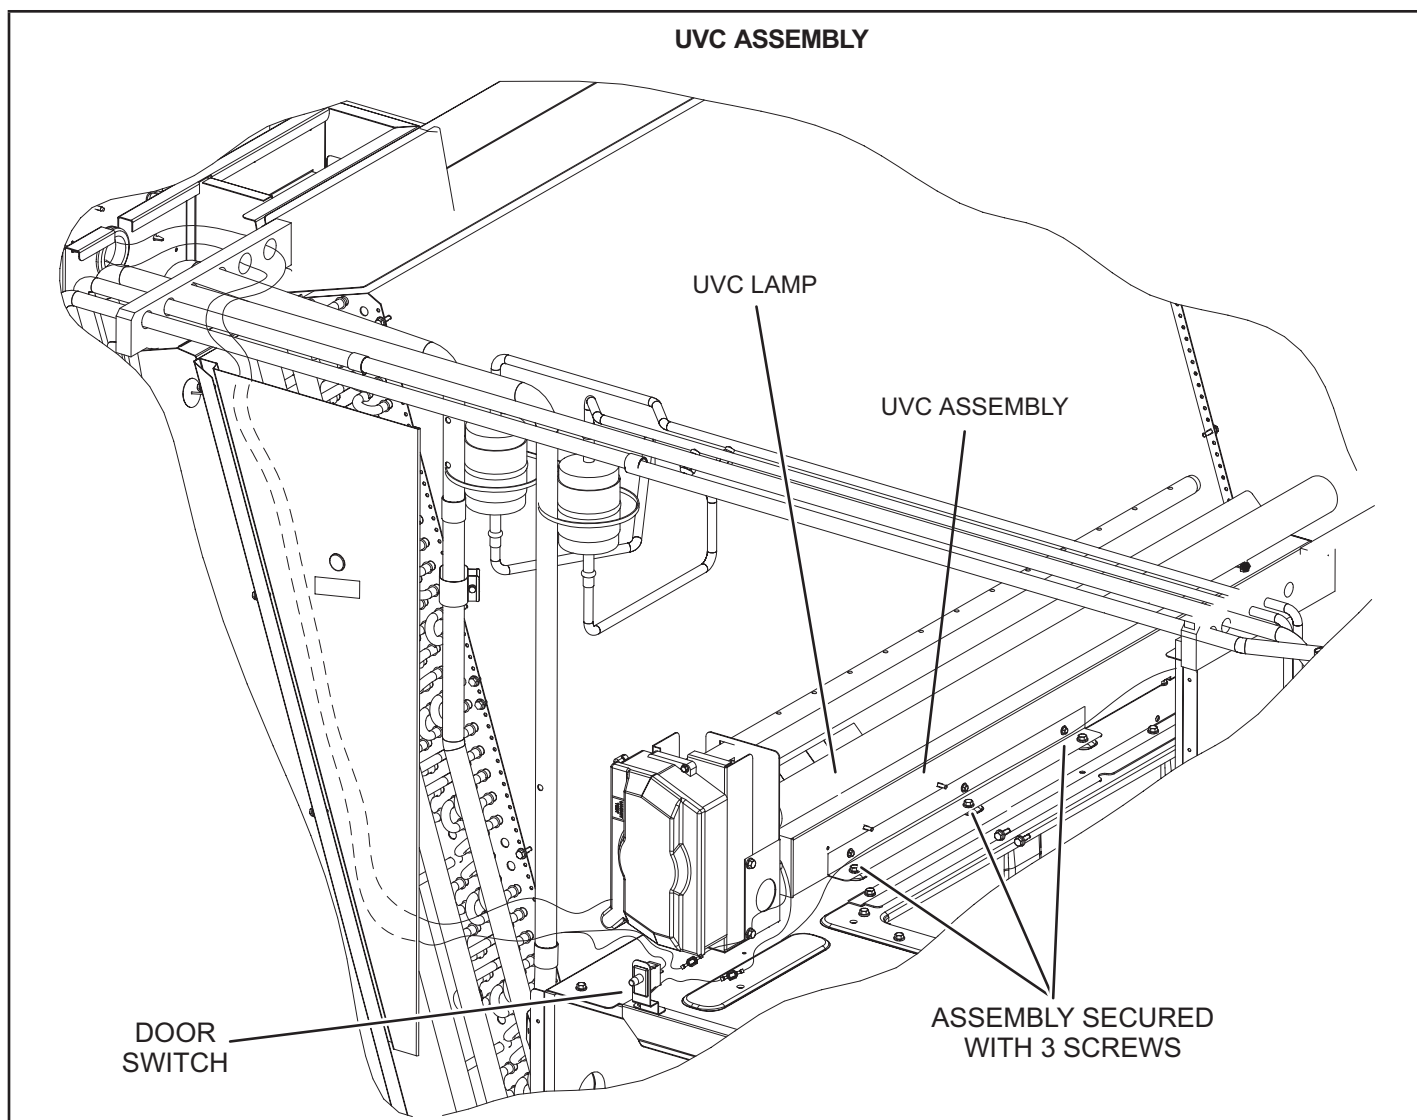

FIGURE 22
When the UVC light is factory installed, the lamp is shipped in a foam sleeve. The lamp is attached to the UVC light assembly on the blower deck. See FIGURE 22. Remove the lamp and install into the UVC light assembly as shown in steps 2 through 11.
- 5 - Remove and retain the (3) screws securing the UVC assembly. Carefully slide the complete UVC assembly out through the blower access door. See FIGURE 22.
- 8 - Carefully place the UVC assembly on the blower deck. Line up the mounting holes on the UVC assembly with the mounting holes on the blower deck. See FIGURE 22. Use the retained screws provided to attach the UVC assembly in place.